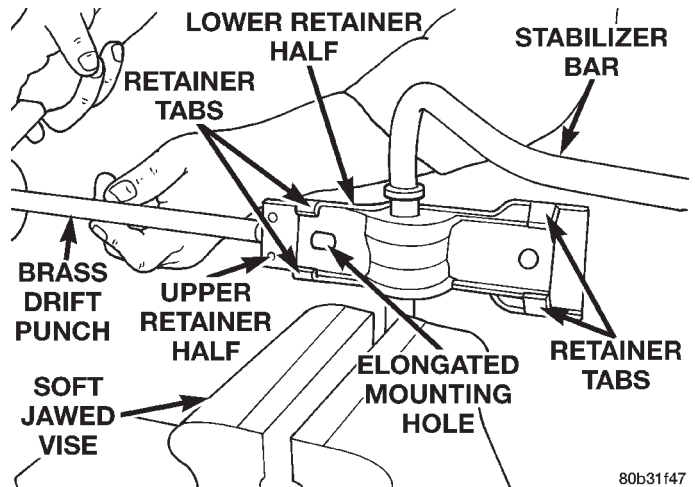

Fig. 36 Bushing Retainer Installation
(1) Install the bushings onto the stabilizer bar. **Make sure that the slit in the bushing points toward the front of the vehicle.**
(2) Mount the stabilizer bar in the soft jawed vise with the bushing just above the top of the vise jaws.
(3) Install the lower half of the retainer onto the bushing with the elongated mounting hole towards the front of the vehicle.
(4) Install the upper half of the retainer onto the lower half. This is done by tapping the upper half, starting with the large end, onto the lower half with a hammer and brass drift punch (Fig. 36). Tap the upper retainer half on until the mounting holes line up with the ones in the lower half.